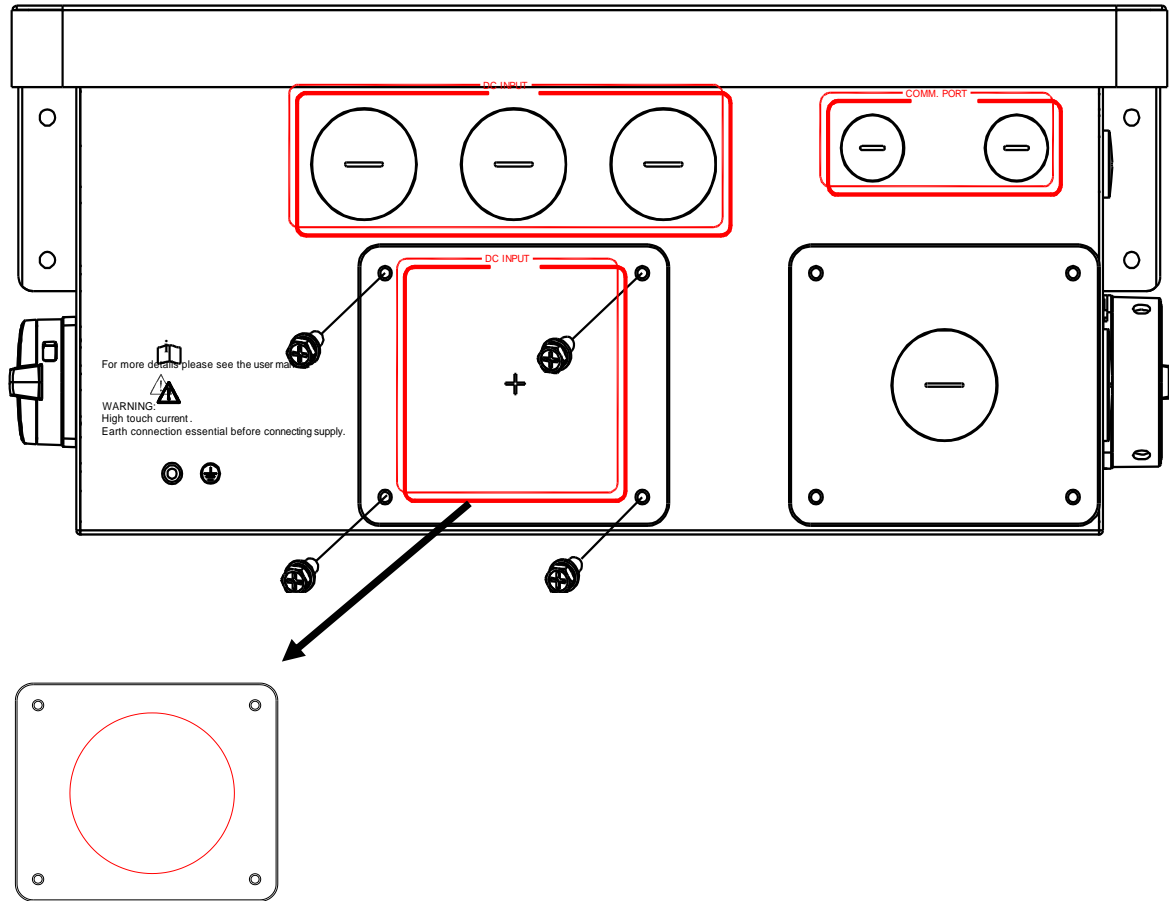

Fig 3-32 AC Input through single knock-out hole
- 2. Using the removable gland plate.** Optionally, all AC conductors may be routed through a single large knock-out hole on a removable gland plate at the bottom of the wiring box. Refer to Fig 3-32. The plate may be drilled or punched for up to 2-1/2 inch conduit.